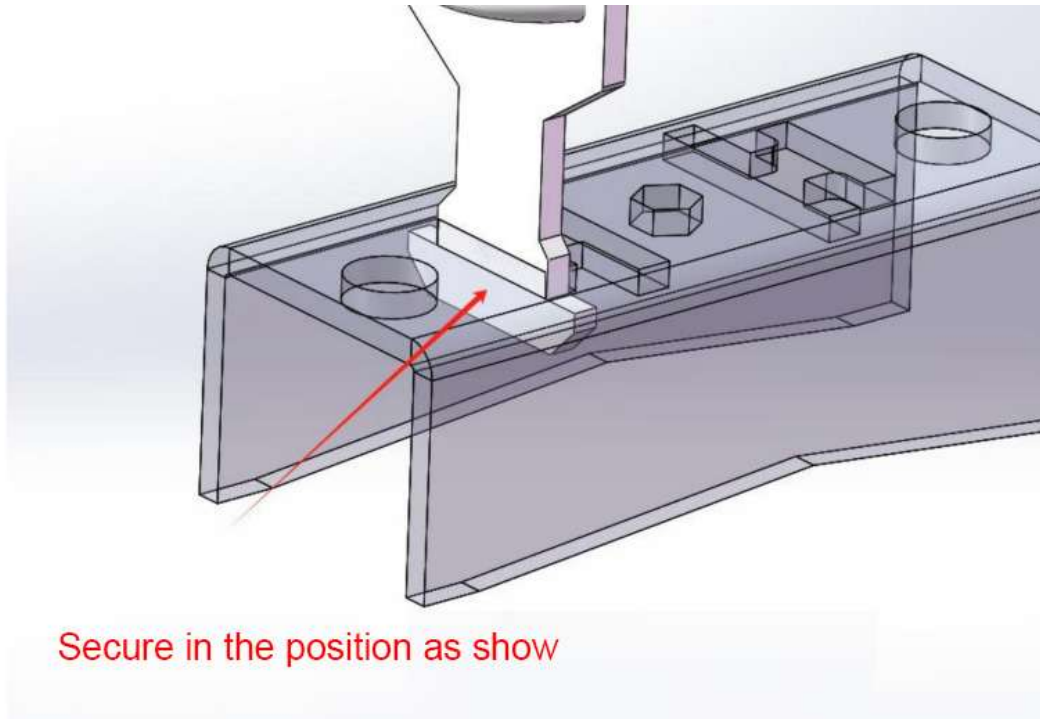

Figure 11
c. The buckle blocks the gap, as shown in Figure 11;